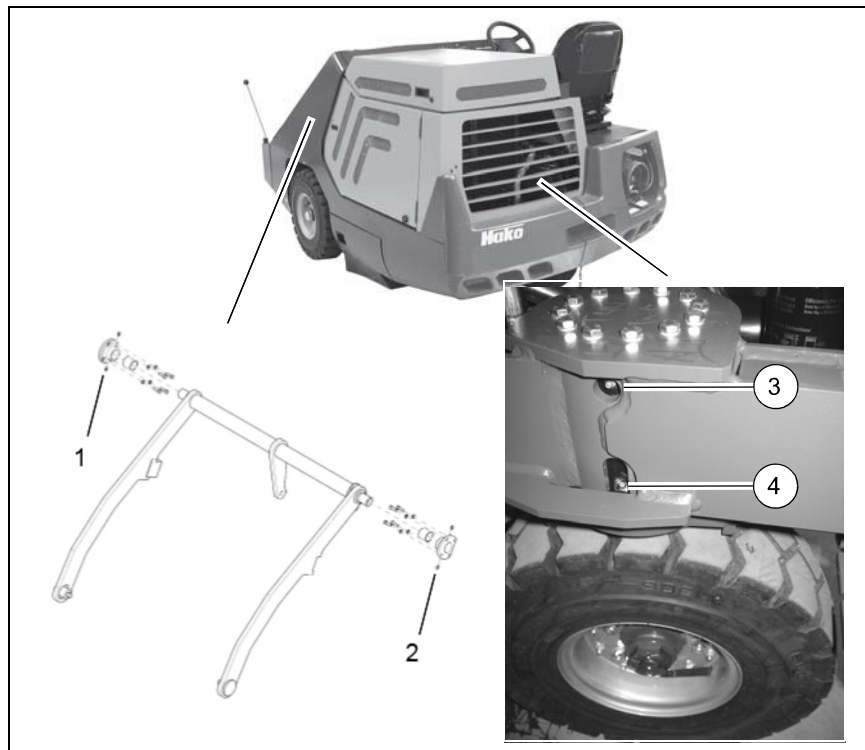

Fig.28
- right-hand side (2x) (Fig. 28/2)
- right-hand side (2x) (Fig. 28/1)
- the drive (Fig. 28/3 and 4)